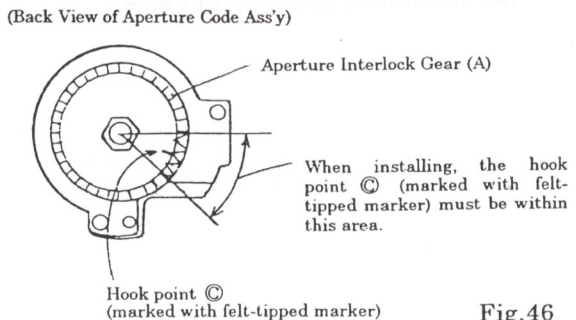

Fig.46
- When installing the Aperture Code Ass'y on the Mount Base, the hook point (C) (marked with a felt-tipped marker) of the Spiral Spring to the Aperture Interlock Gear (A) of the Aperture Code Ass'y must be positioned in the area as shown in Fig. 46.